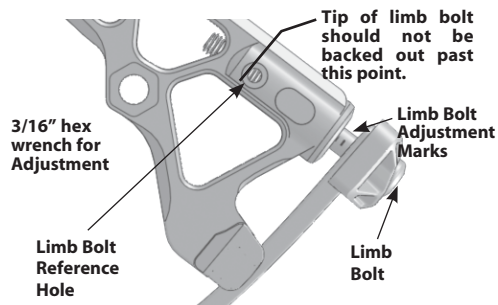

Figure 2. Draw Weight Adjustment
Please reference Figure 2.
1. Before adjusting limb bolts, note setting on limb bolt adjustment marks for future reference. (See **Figure 2**).
alternating from top limb bolt to lower limb bolt, never backing the limb bolt pasts reference hole (See **Figure 2**).